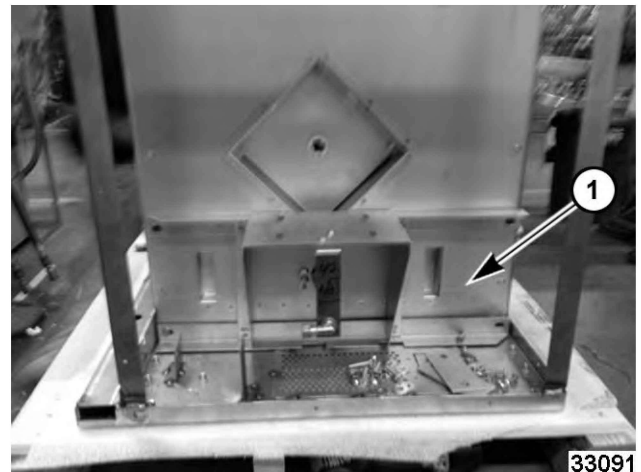

Fig. 16
7. Remove motor mount cover (1, Fig. 16).